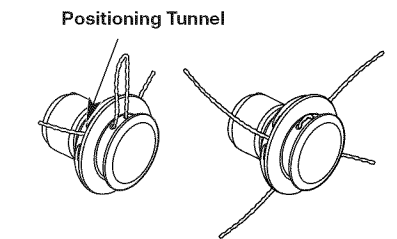

Fig. 28
5. Push and/or pull the line so that the line is snug against the hub and is fully extended through the positioning tunnels. (Fig. 28)